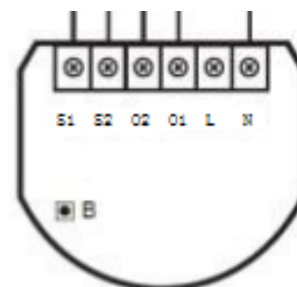
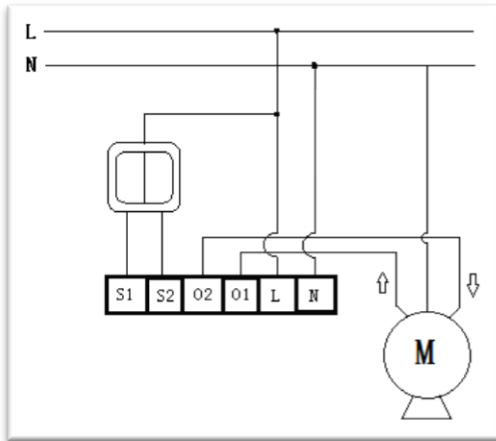
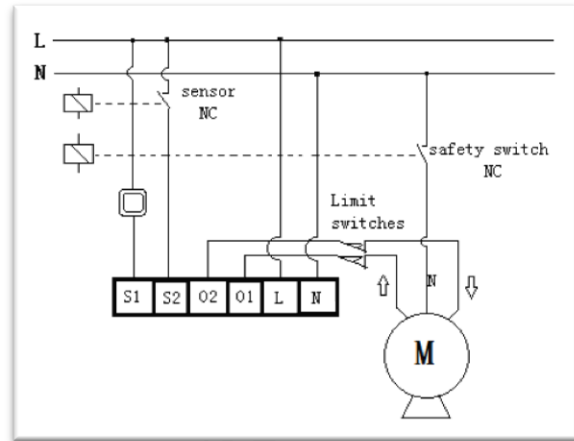

Fig. 1
Fig. 2
Fig. 3
- 2) Connect the Roller Shutter in accordance with the wiring diagram presented on Fig1.. Fig.2., (roller blinds, venetian blinds) and Fig.3 (gates);